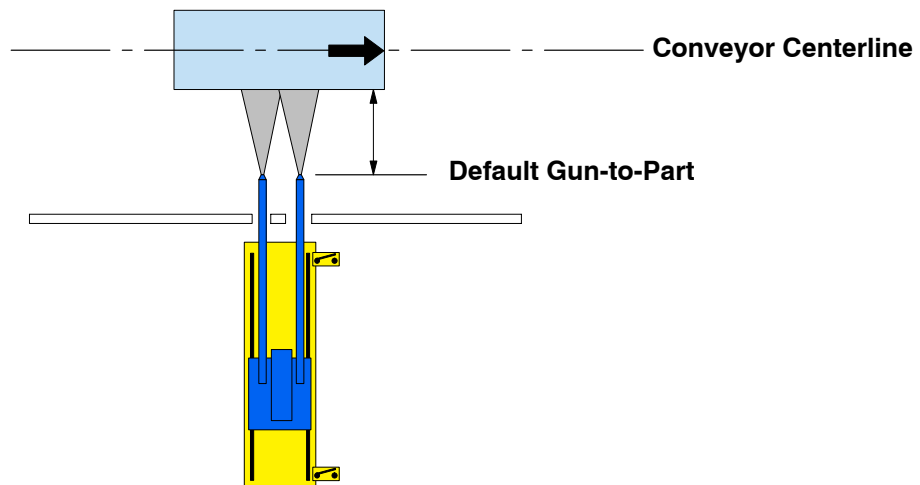

Figure 4-8 Part in Front of Guns: Gun-to-Part Distance Maintained (Top View)
2. Part in front of guns: The positioner follows the contours of the part as the part moves by the spray guns, maintaining the 10-inch **gun to part** distance (Figure 4-8).